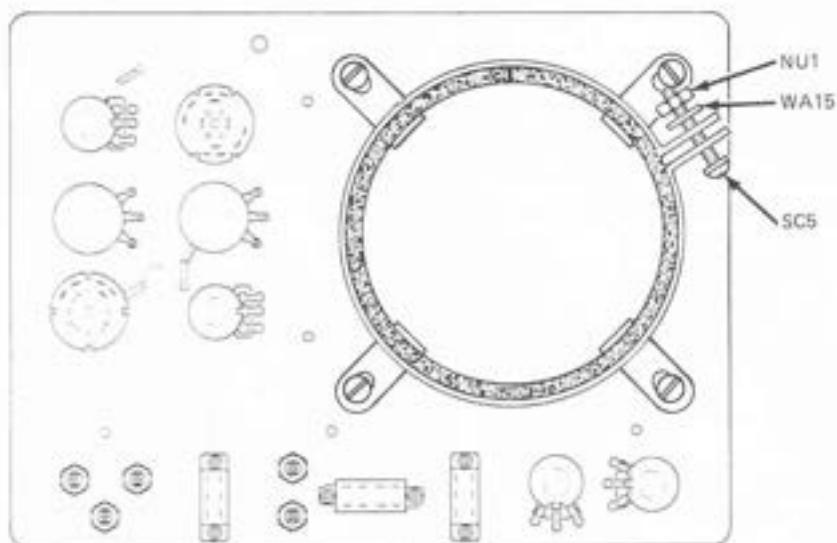

Figure 35. Installing CL59.
(3) Position the crt clamp (CL59) so that it rests inside the flange of the crt front panel brackets. Use a 6-32 x 1" machine screw, lockwasher, and nut to secure the CL59. Position the screw as shown in Fig.35. Do not tighten the screw at this time()